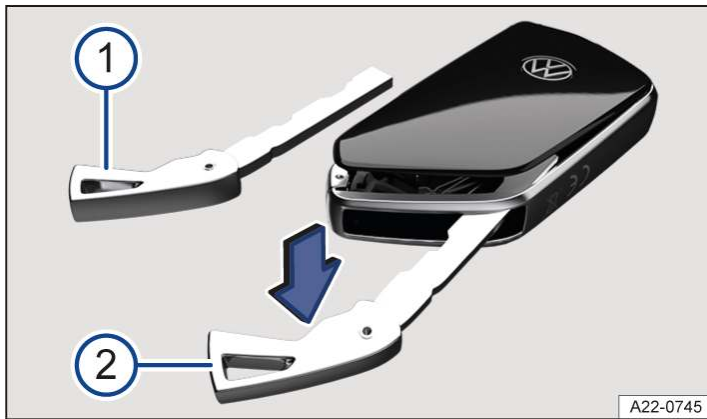

Fig. 1 Vehicle key: opening the battery compartment cover.
1. Remove the manual key → Fig. 1 ① (→ Vehicle key).